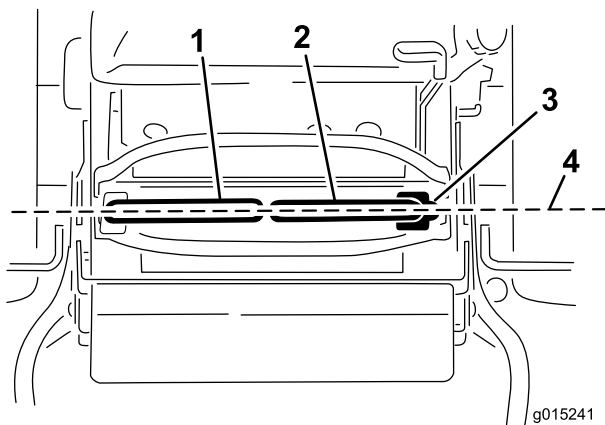

Figure 78
Important: Ensure that the tracking of the mower is correct after adjusting the motion control levers. Adjusting the tracking and aligning the motion control levers front to back is the same procedure (Figure 78).
1. After the horizontal alignment is finished, check the front to back alignment (Figure 78).